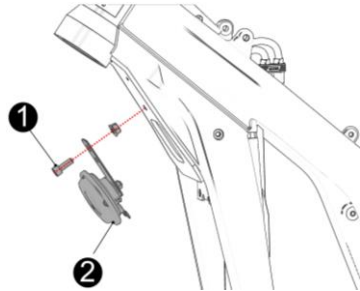

Fig 48
11.19 Dismount horn(see Fig 48)